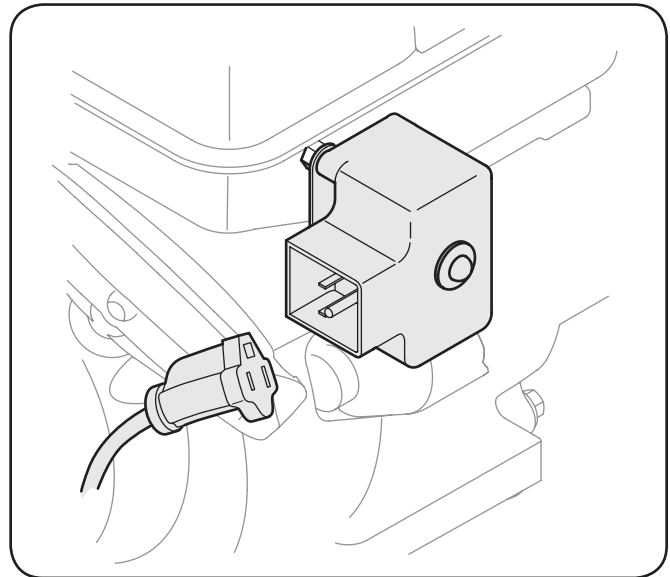

Figure 5-2
3. Plug the extension cord into the electric outlet located on the engine. Plug the other end of extension cord into a three-prong 120-volt, grounded, AC outlet in a well-ventilated area. See Fig. 5-2.